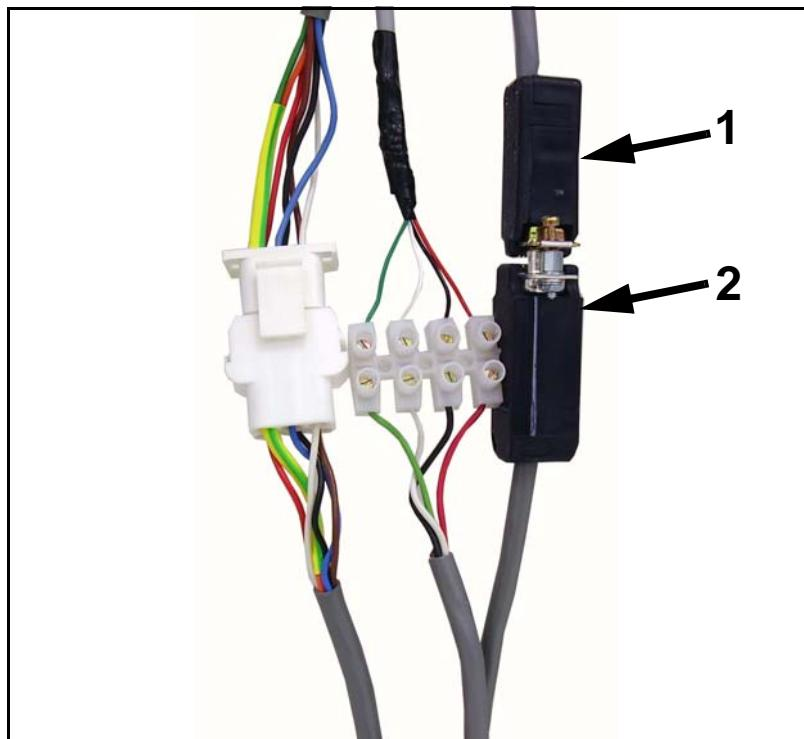

Figure 2-19. AEC Cable
- 1 Connect AEC cable (1 in Figure 2-19) to system AEC cable (2).